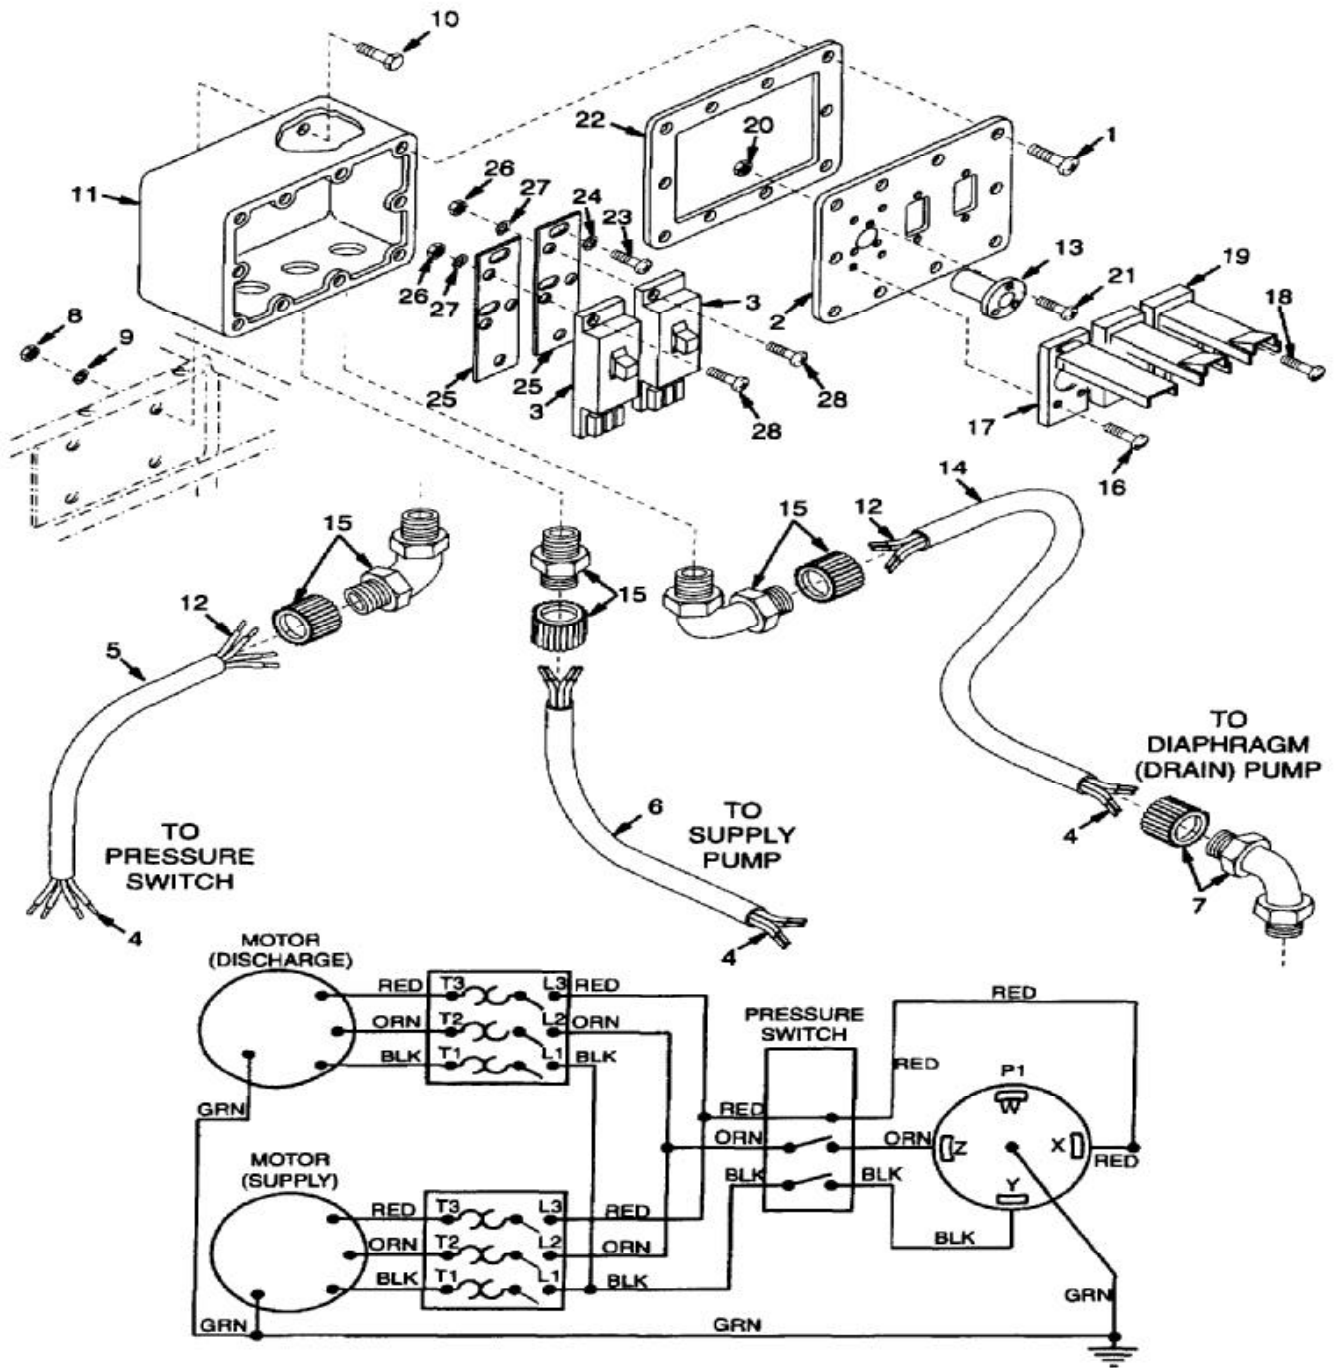

Figure 4-11. Switch Box Assembly
Refer to figure 4-11.
- (1) Be sure any defective, missing, or damaged components have been replaced.
- (2) Install supply pump (9) and align mounting holes. Secure using four flat washers (25), bolts (24), flat washers (23), and new self-locking nuts (22).
- (3) Apply sealing compound to threaded ends of nipple (21) then install nipple and cross fitting (13). Be sure cross fitting is installed as illustrated.
- (4) Apply sealing compound to threaded ends of nipple (20) then install nipple and pressure switch (5). Be sure pressure switch is upright when installing.
- (5) Apply sealing compound to threaded end of coupling (1) then install coupling.
- (6) Apply sealing compound to threaded end (s) of bushing (19), nipples (18), and coupling (11) then install bushing, nipple, coupling (17), and coupling (11).
- (7) Apply sealing compound to threaded end (s) of coupling (2), bushing (14), and nipple (16) then install nipple, strainer (15), bushing and coupling.
- (8) Install cold line hose assembly onto cross fitting (13). See paragraph 4.12.
- (9) Install plug (12) and secure coupling (11).
- (10) Install two conduit connectors (10) then install conduit, with wire leads inside, into conduit connectors.
- (11) Connect wire leads to pressure switch (5) and supply pump (9) using tags and electrical schematic figure 4-11. Remove tags.
- (12) Install gasket (8), cover (7), and four screws (6).
- (13) Install cover (4), and secure nut (3).
- (14) Connect mating hose end coupling to coupling (2) and secure coupling.
- (15) Connect mating hose end coupling to coupling (1) and secure coupling.
- (16) Start up shower facility. See paragraph 2.7.